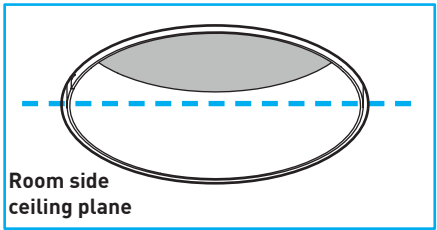

Fig.15
**Important:** Collar must not protrude beyond ceiling plane "Fig.15".